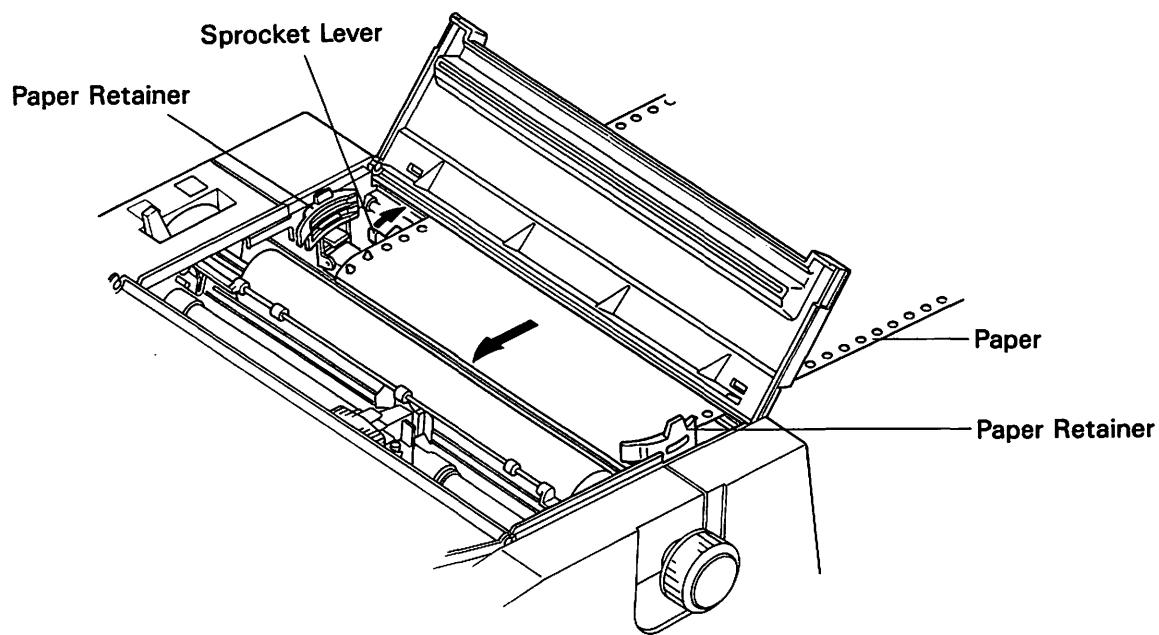

Fig. 2-6
5) Fit the pin holes on the paper onto the right and left sprocket tractor pins. If the width of the paper does not match the distance between the sprocket tractors, push back the right or left sprocket lever to release the sprocket tractor(s) and adjust the position of the tractor(s) to match the width of the paper. Then pull the sprocket lever(s) forward to lock the position of the sprocket tractor(s). (See Fig. 2-6)